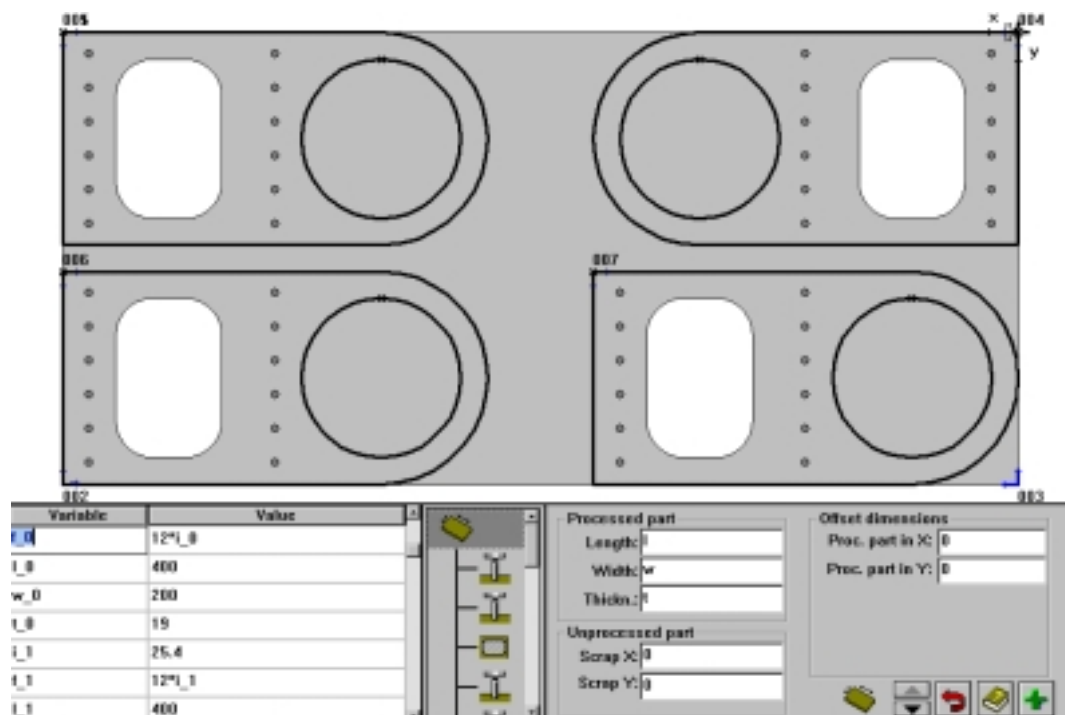

Figure 2
- 2) Ability to rotate a merged MPR. Provides the ability to use the material to the best efficiency. (See Figure 2)
- 3) Ability to mirror a merged MPR. Provides the programmer the ability to place mirrored parts in a nest for nested manufacturing or any other required mirror function. (See Figure 2)
- 7) Merging MPR's is the most common practice for customers with Nested Manufacturing machines. (See Figure 2)